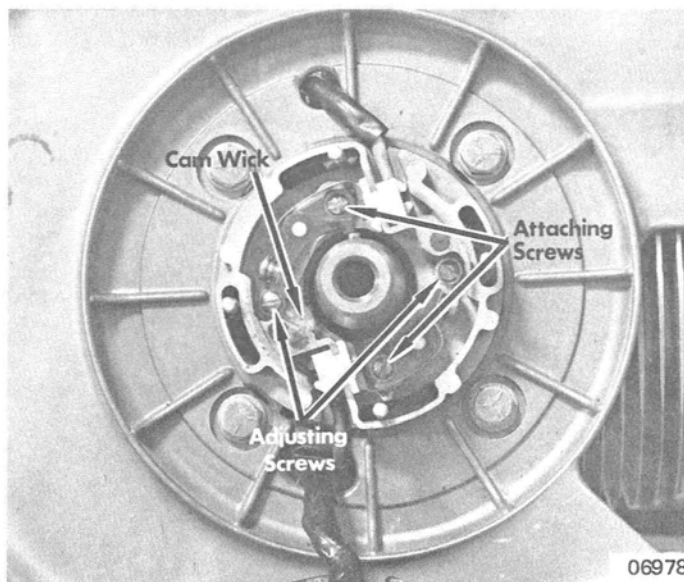

Figure 2. Breaker Points and Cam Wick
7. Remove lubrication wick. Remove breaker points by removing attaching screws and nuts. (Figure 2)